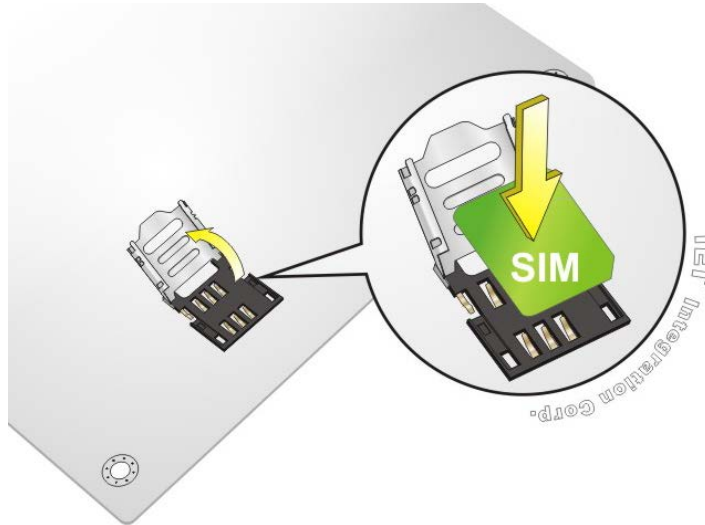

Figure 4-9: SIM Card Installation
Step 3: Open the slot cover and place a SIM card onto the slot. The cut mark on the corner should be facing away from the slot as shown in **Figure 4-9**.